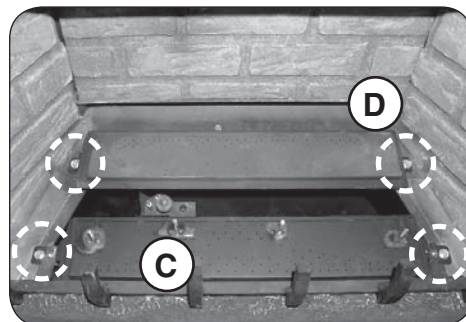

Fig. 52-1 Remove grate & burner hex screws
4. Remove the grate. Then remove the 2 hex screws found on the ends of the rear burner using a $\frac{5}{16}$ " nut driver. See Fig. 52-1, "C" and "D".